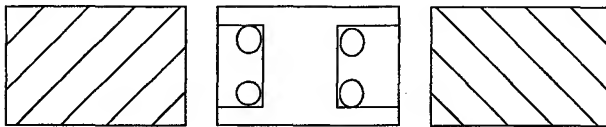

Fig.5-2
5. Adjust 60H-FREQ so that the slanting lines on the screen will be vertical. (Fig.5-2)
7. Adjust 50H-FREQ so that the slanting lines on the screen will be vertical. (Fig.5-2)